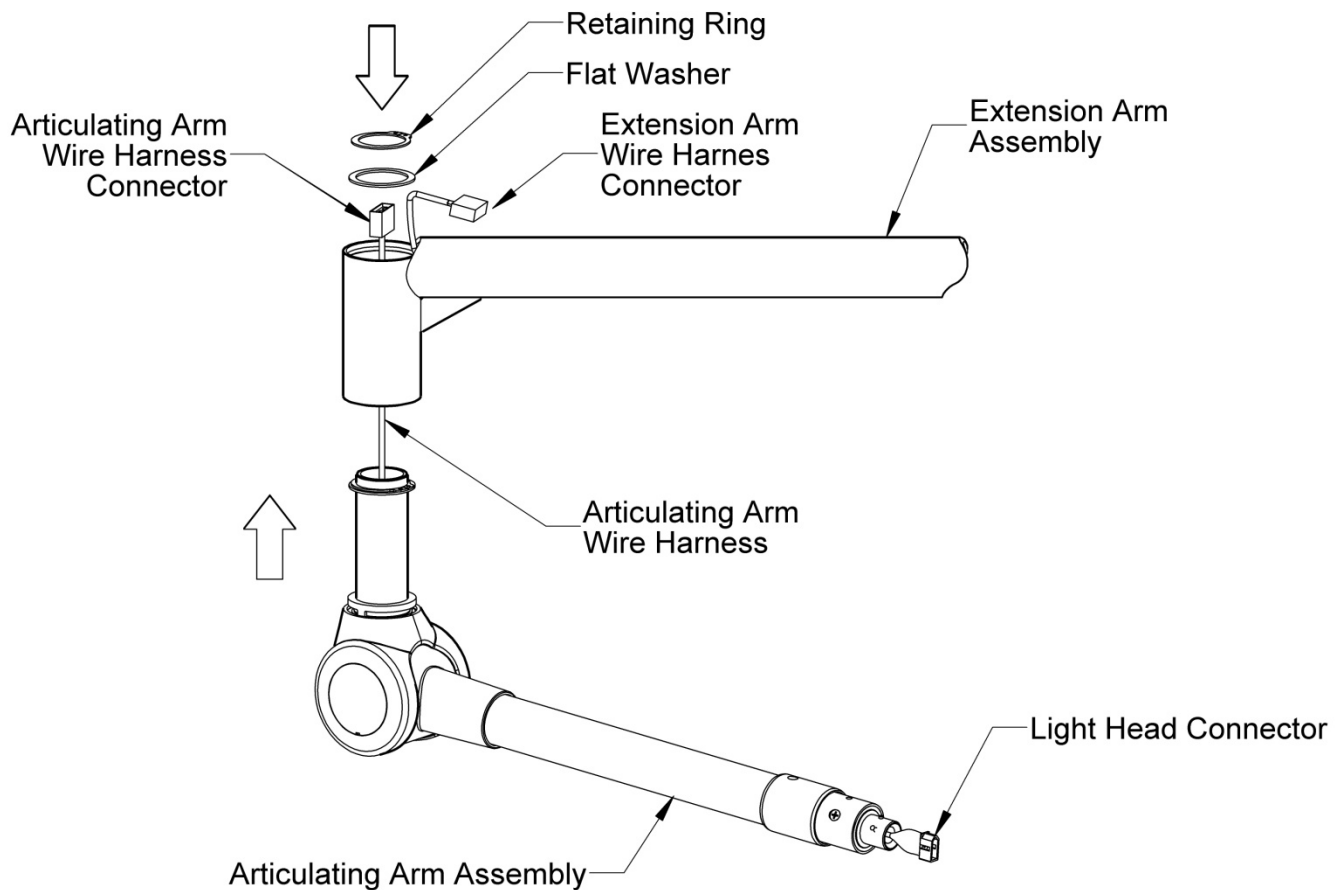
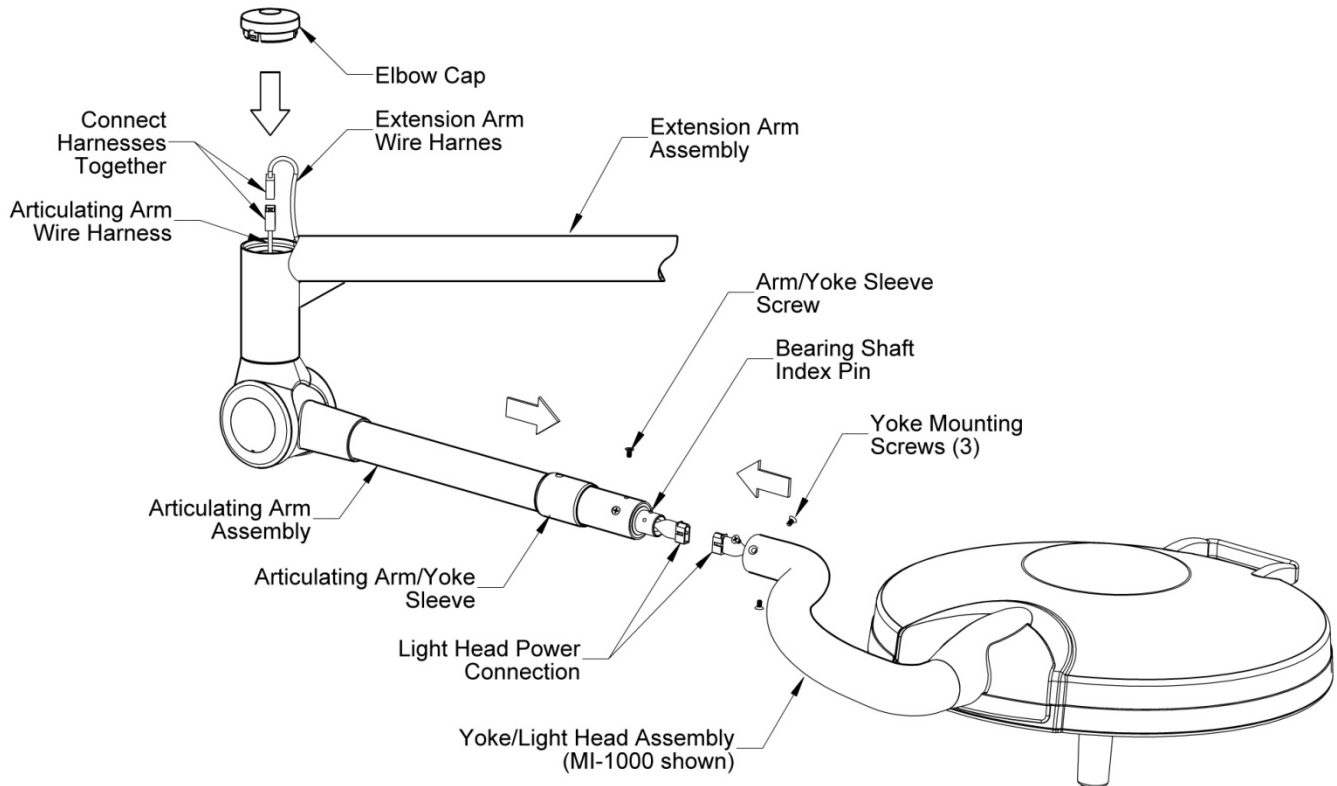

Figure 7: Articulating Arm/Light Head Assembly Installation
Figure 8: Installing Light Head
Now that the Articulating Arm rotates freely on the Extension Arm, using two people, lower the Articulating Arm to the horizontal position and slide the Articulating Arm/Yoke Sleeve with the screw hole positioned away from the light head onto the arm as shown in figure 8. Next, pre-align the indexing pin on the Bearing Shaft extending out of the Articulating Arm to match the position of the channel located on the inner diameter of the Yoke neck. While supporting the light head, securely connect the Light Head Power Connection. Carefully slide the Yoke onto the Arm Bushing with the indexing pin in the channel on the yoke, ensuring the power-connectors do not bind or disconnect. Attach the three (3) Flat Head Screws to secure the Yoke to the Articulating Arm. Slide the Articulating Arm/Yoke Sleeve of the Arm/Yoke Joint and install the Flat Head Screw holding the Sleeve in place. To finish, connect the Harness Interconnect that connects the Extension Arm to the Articulating Arm.
Install the Arm Block to the Upright using the four (4) Mounting Screws. Install the Articulating Arm so that the Rotational Stop Tab is aligned to fit in the reveal on the Rotational Stop (installed). Install Articulating Arm as described in Fig 7 on Page 18 and the Yoke/Light Head Assembly as described in Fig 8 on Page 19.